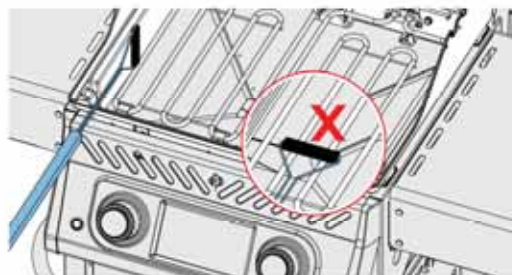

Fig. 7
2. Use a soft brass wire brush to clean loose debris. Brush all debris from inside the appliance into the removable drip pan. DO NOT use the brush on the electric burners. (Fig. 7)